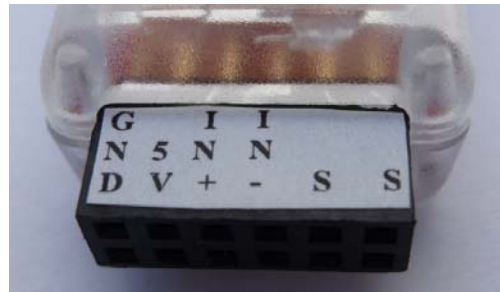
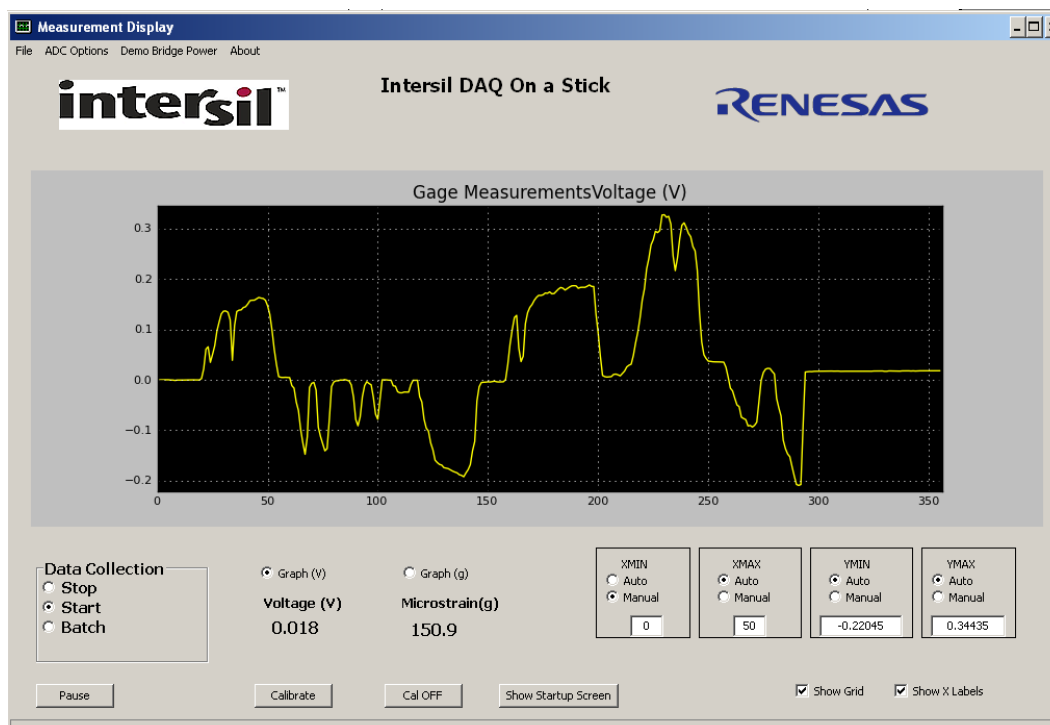

FIGURE 5. SENSOR CONNECTOR
FIGURE 6. GUI MEASUREMENT SCREEN
After software has been installed, and the setup screen in Figure 5 appears, plug the ISLRE-BDGSTKEV1Z board into a USB port on the computer.
The green LED on the DAQ on a Stick board should be on at this time. When the software starts, the Startup Screen shown in Figure 5 will appear. With the DAQ on a Stick connected, the USB Status indicator will display **Connected 0x2033**. The assigned HID PID code for this application is 0x2033. This is verification the software is communicating with the board.
From the Startup Screen (Figure 5), the user can click on the Instantaneous Voltage button to get a single voltage reading, select the sensor input they want to measure and adjust the gain of the amplifier, or click the Start button to go to the Measurement Display screen, as shown in Figure 6, "GUI MEASUREMENT SCREEN," on page 4. At this point the green LED on the board will go off.
The ISLRE-BDGSTKEV1Z reference design gives the user the option to measure the strain on an internal Bridge with a foil gauge (supplied with the evaluation board) or connect an external sensor and monitor the voltage reading on the GUI screen. The user will select the "Supplied with the Demo" sensor or "Customer Supplied" sensor by clicking the appropriate radial button at the top of Figure 5. The "Supplied with the Demo" sensor (foil gauge) is the default value in the GUI with a gain of 100V/V. Figure 5 shows the external connector inputs, which are used to connect the sensor to the circuit shown in Figure 2 on page 1.
2. Connect the opposite end of the wires to the far edges of the foil gauge board (See Figure 5).
1. To connect a user supplied sensor, plug the wires into the IN+ and IN- ports as shown in Figure 5, then select the "Customer Supplied" option. This will cause the ISL43741 differential mux to switch the inputs. Once the Customer Supplied option is selected, the user will have the option of changing the amplifiers' gain for the best measurement.
The following is an overview of the demonstration software. The primary goal of the software is to provide a real-time graphical display of data collection. To do this, two GUI screens are used. The Startup Screen (Figure 5) is used for the following: verify software is communicating with the board, select the sensor to be measured, select gain of the system (if the "Customer Supplied" sensor is selected) and select the input to the ADC. Once these items are selected, the User can click on the "Start" button to proceed to the Measurement screen (Figure 6).
The "Start" button at the bottom left of the Startup Screen loads the "Measurement Display" screen shown in Figure 6.
Once the “Start” button is clicked on the Startup Screen, the Measurement Display Screen will appear (Figure 6). From this screen the user can do the following: start/stop data collection, select the scaling of the Y axis [Voltage (V) or Microstrain (g)], adjust the scaling of the X and Y axes [“Automatic” or “Manual”], and remove any offsets with the “Calibrate” button.